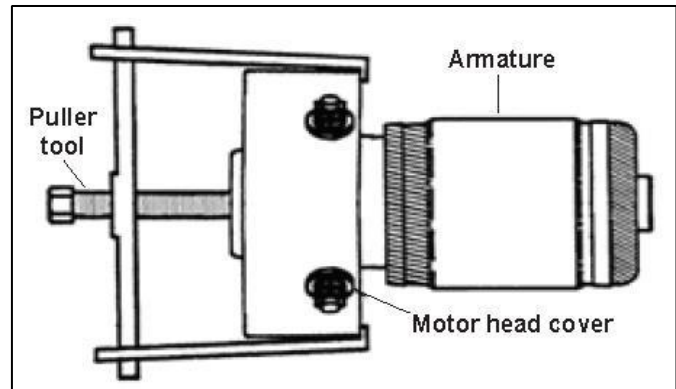

Figure 10-4
3. Place puller around the motor head. Use the center of the shaft to locate puller. See Figure 10-4.